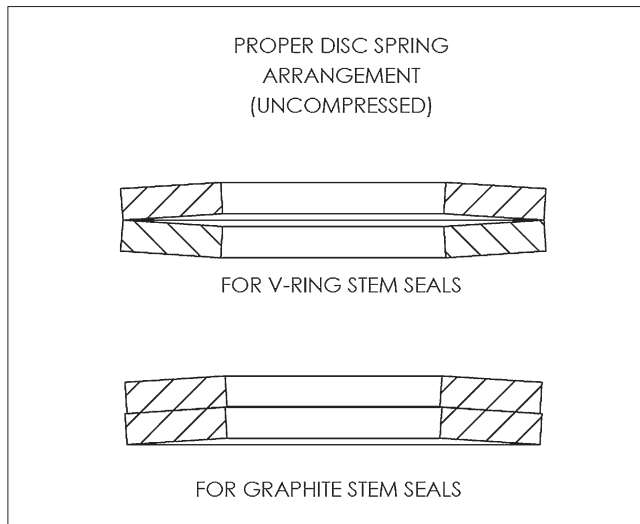

Figure 10. Disc Springs Orientation
9. Place compression plate (20) over studs (29). Place two disc springs (31) over each stud (see **Figure 10**) for proper orientation).
10. A lubricant compatible with the flow media **MUST** be applied to the stud (29) threads and the face of the stud nut (30). Place a stud nut (30) on each stud (29) and tighten nuts alternately so that the compression plate (20) remains parallel with the body bonnet. Tighten the stud nuts in accordance with the torque values in **Table 1**.